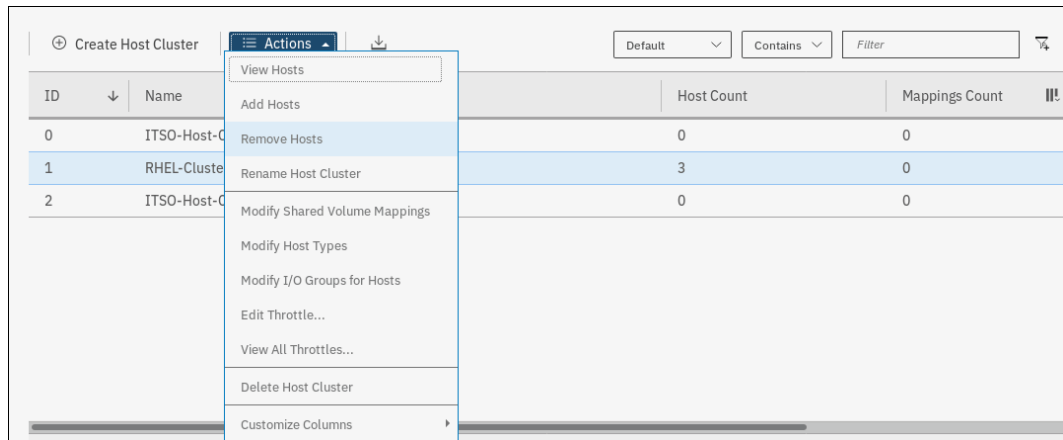

Figure 5-97 Removing hosts from host cluster
2. Click **Actions** → **Remove Hosts**, as shown in Figure 5-97.